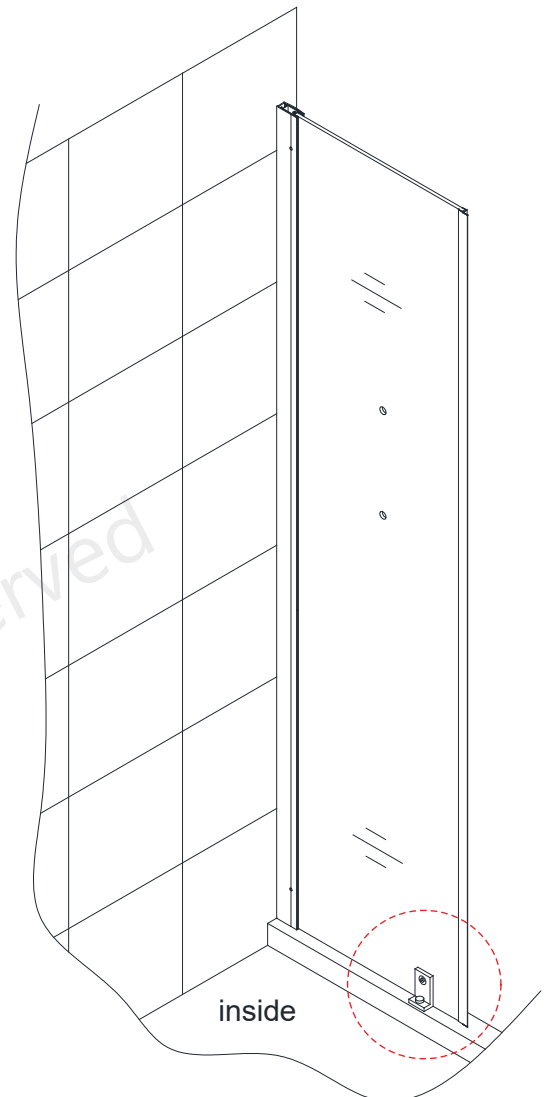

Fig 7b
**** Use an $\text{Ø}1/8''$ drill bit for installation into an acrylic base OR use a $\text{Ø}5/16''$ drill bit and an anchor for installation into a tile threshold. Use the **Pan Head Screw ST4.2x35 (#16)** along with a raised white washer to attach the **Bottom Bracket (#18)** to the threshold and snap on the **Decorative Screw Cover (#17)**. (Fig 7a and Fig 7b)**